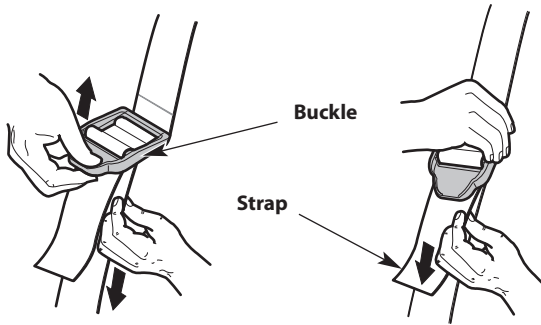

Fig. 6
4. Adjust the shoulder strap to fit the operator (Fig. 6). Pull the buckle up to loosen the shoulder strap. Pull the strap down to tighten the shoulder strap.